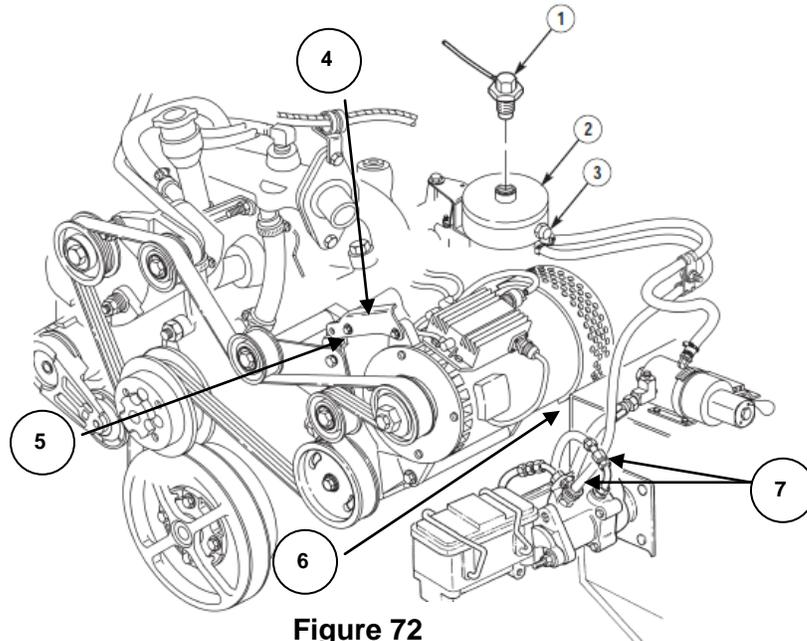

Figure 72
- (c) Inspect to ensure that the Alternator Adjusting Bracket (4) as shown in **Figure 72** is properly installed.
(2) Power Steering Hoses:
(a) Inspect to ensure that the two Power Steering Pressure Hoses (7) **Figure 72**, do not come into contact with the 400 Amp Alternator.
(b) If the screw in the Alternator Adjusting Bracket (4) as shown in **Figure 72** is not properly installed, it's possible that the Fuel Filter Return Line can be crushed between the alternator and Cowl Panel.